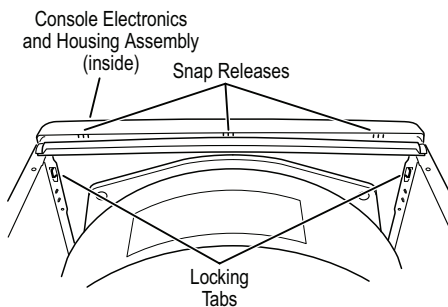

Figure 18. Remove the console panel to access the console electronics and housing assembly.
3. The console panel has two locking tabs on the left and right rear, one locking tab on the bottom (hidden), and three snap releases across the top. See Figure 18. Press the locking tab on the right rear, and gently rotate the console panel up as you pull the top free of the three snap releases, finally pressing the locking tab on the left, and lift the console panel off.